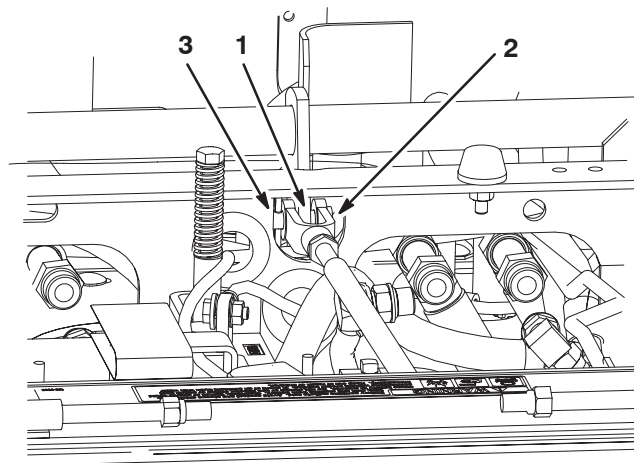

Figure 60
5. Remove the hairpin and cotter pin from the brake linkage (Fig. 60).
6. Adjust the yoke clockwise to shorten the distance; counterclockwise to lengthen distance (Fig. 60).